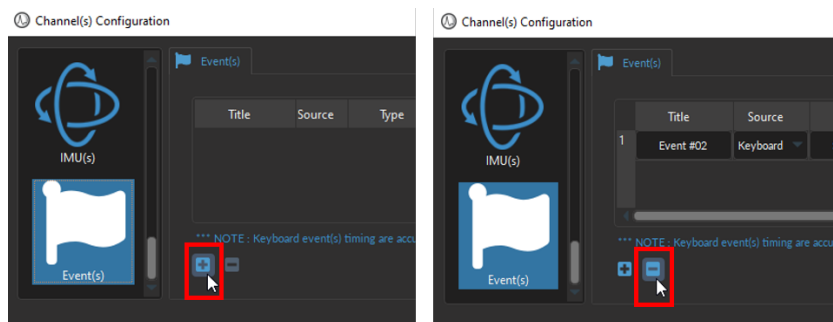

Figure 11.59: Adding and Removing Events
To add a new **Event**, select the + sign at the bottom of the window (Fig. 11.59, left). To remove a Keypress Event, use the - button (Fig. 11.59, right).
- Note: Selecting the + button (without clicking the *Add* button or the *Close* button of the *Channel Configuration* window) will **automatically** add the Event channel at the **bottom** of the Acquisition View window, below any pre-existing channels (Fig. 11.59).